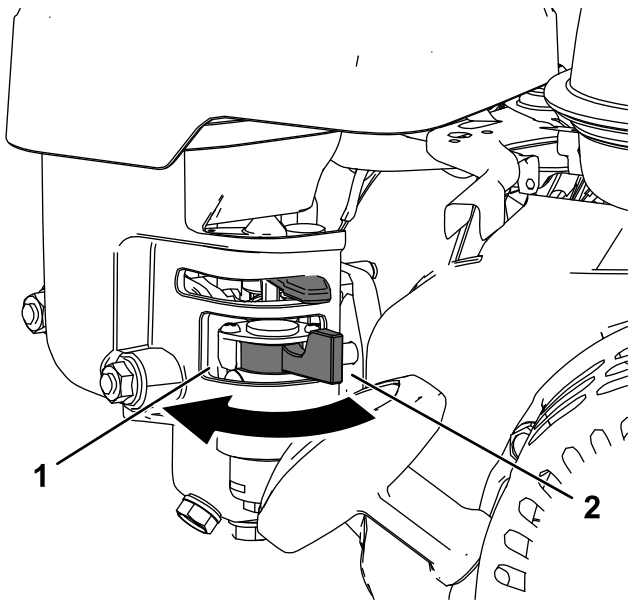

Figure 11
- To open the fuel valve, turn the fuel-shutoff valve handle toward the recoil starter handle (Figure 11).
- To shut the fuel valve, turn the fuel-shutoff valve handle away from the recoil starter handle (Figure 11).